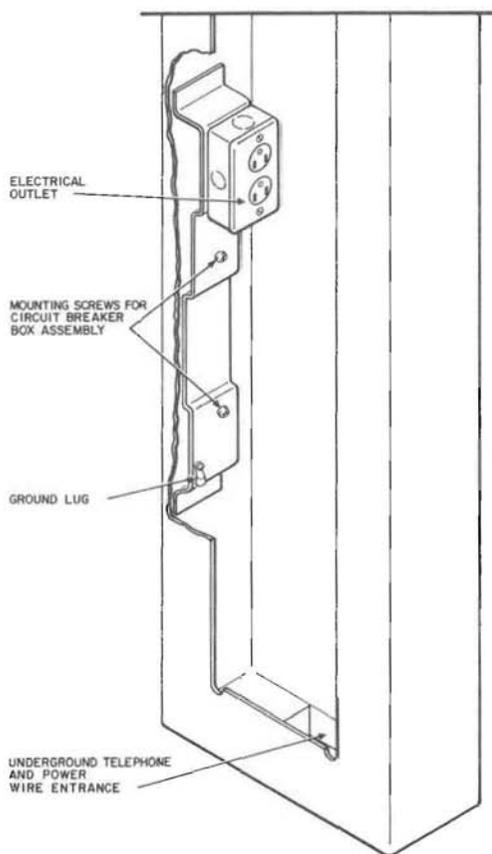
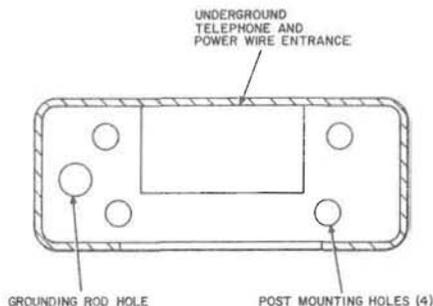
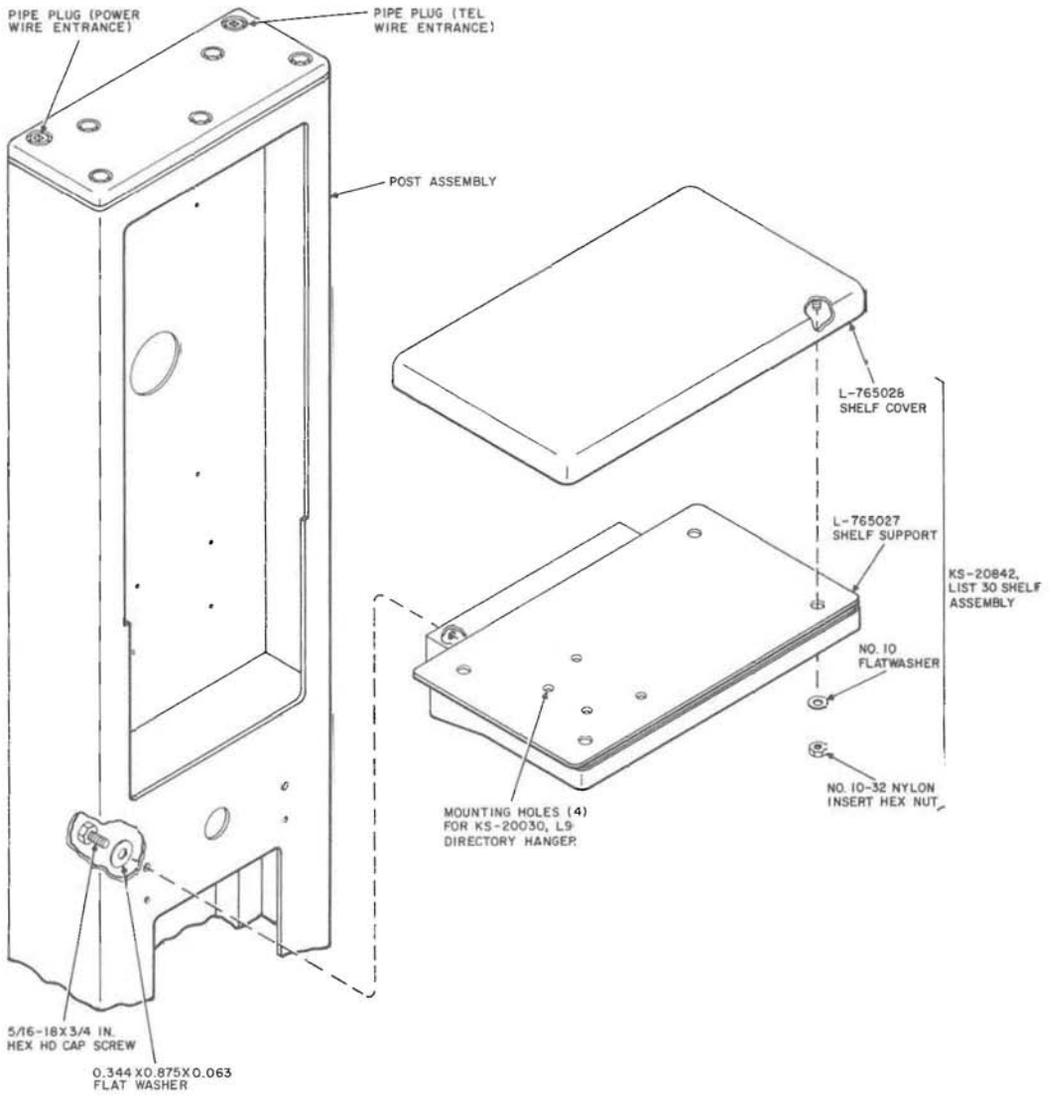
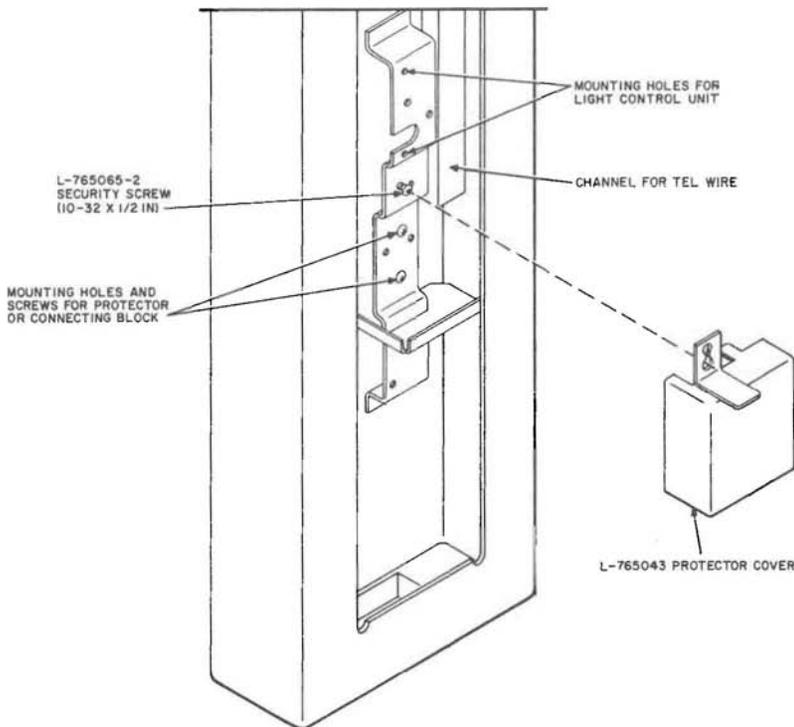

Fig. 4—Outlet for Terminating Electrical Service
Fig. 5—Layout of Holes in Bottom of Post
Fig. 6—Installation of List 30 Shelf on Post
Fig. 7—Location of Station Protection
2.16 Electrical service terminates in an electrical outlet located on the lower left inside of post (Fig. 4). The power wiring feeds up through a rectangular entrance hole when coming from below ground level (Fig. 5) or follows a channel down the left side of the post when entering from overhead (Fig. 6).
optional circuit breaker box when required (Fig. 4). The following items must be ordered separately:
2.18 A lug (Fig. 4) is provided below electrical outlet for connecting the ground wires.
from the base. Align the four mounting holes in bottom of post (Fig. 5) with holes in base (Fig. 9) and using the removed hardware, install the post assembly to the base.
(1) If the front panel is installed on the post, remove the panel as outlined in 3.03(9).
(2) Remove two 5/16-18 by 3/4 hex head cap screws and two 0.344 by 0.875 by 0.063 flatwashers from the rear of the shelf assembly.
(3) Align the holes in the rear of the shelf with the mounting holes on the front of the post (Fig. 6). Using the screws and washers removed in (2), reach in through the opening under the shelf, and insert the screws through the post and into the rear of the shelf. Tighten the screws to secure the shelf
- 3.07** Telephone wire entrance holes are located on the top-right side (Fig. 6) and lower-inside of post (Fig. 5).
Note: When the underground wire entrance is used, install flexible conduit between the studs in the mounting surface and the bottom of the protector access cover (Fig. 7).
Note 2: When the overhead entrance is used and the protector is located in the lower part of the post, the wire must feed down channel (Fig. 7) to the protector and back up to the wire exit hole in the recessed area. Remove the pipe plug (Fig. 6) on top of the post to gain access to the wire conduit.
3.11 If the entrance is made from the top, remove the top-left pipe plug (Fig. 6), feed the wiring down the channel in the left side, and terminate at the electrical outlet located inside, lower-left of the post on a mounting bracket (Fig. 4).